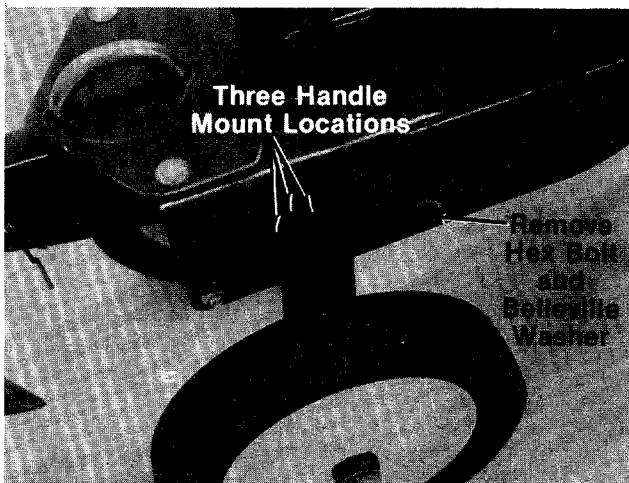

FIGURE 5.
1. Secure handle panel to handles by placing carriage bolts (M) through the lower holes in the handle panel and through the handles. Secure with lock washers (N) and hex nuts (O), finger tight only.
2. Remove hex bolt and belleville washer from each side of frame as shown in figure 5.
5. Select height position for the handle by lining up one of the holes in the handle with desired hole in frame. See figure 5.